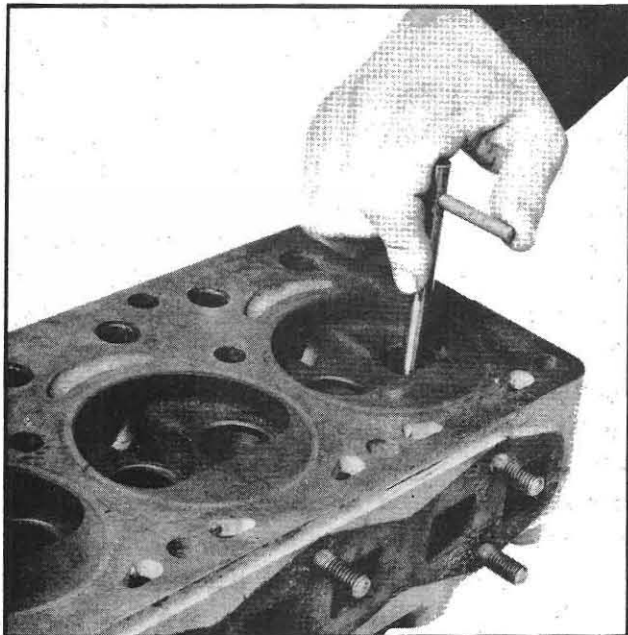

Fig. 43
3. Tighten the pilot in the valve guide, see Fig. 43, and lubricate it with a few drops of light oil. Install the stone on the grinder motor and place over pilot. On TE-20 and TO-20 engines, a 45 degree stone is used for both intake and exhaust seats. On TO-30 engines, a 45 degree stone is used on the exhaust seats and a 30 degree stone on the intake seats. Feed the grinder down onto the seat slowly, being careful not to exert pressure downward or sideways, see Fig. 44. Take very light cuts and check often so that only enough metal is removed to clean up the seat and give a continuously bright surface. Remove the grinder and install a seat runout